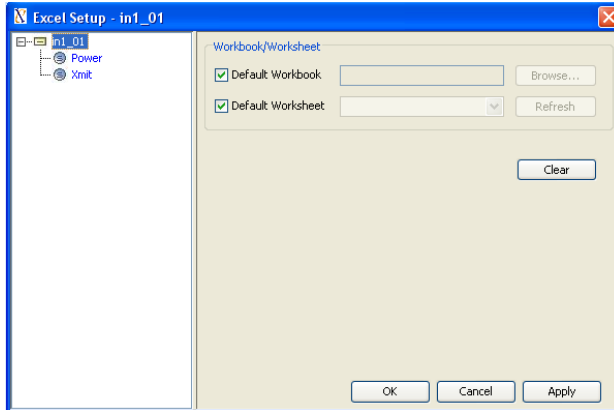

Figure 6.13a ParaMagic- Excel Set-up for instance
- b. The ParaMagic-Excel Setup window will appear as in Figure 6.13a. The spreadsheet to be linked can be identified in two ways